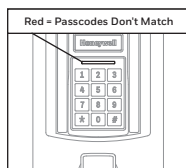

Figure 3
- If the passcode is entered incorrectly, the indicator bar will turn red. (Figure 3)